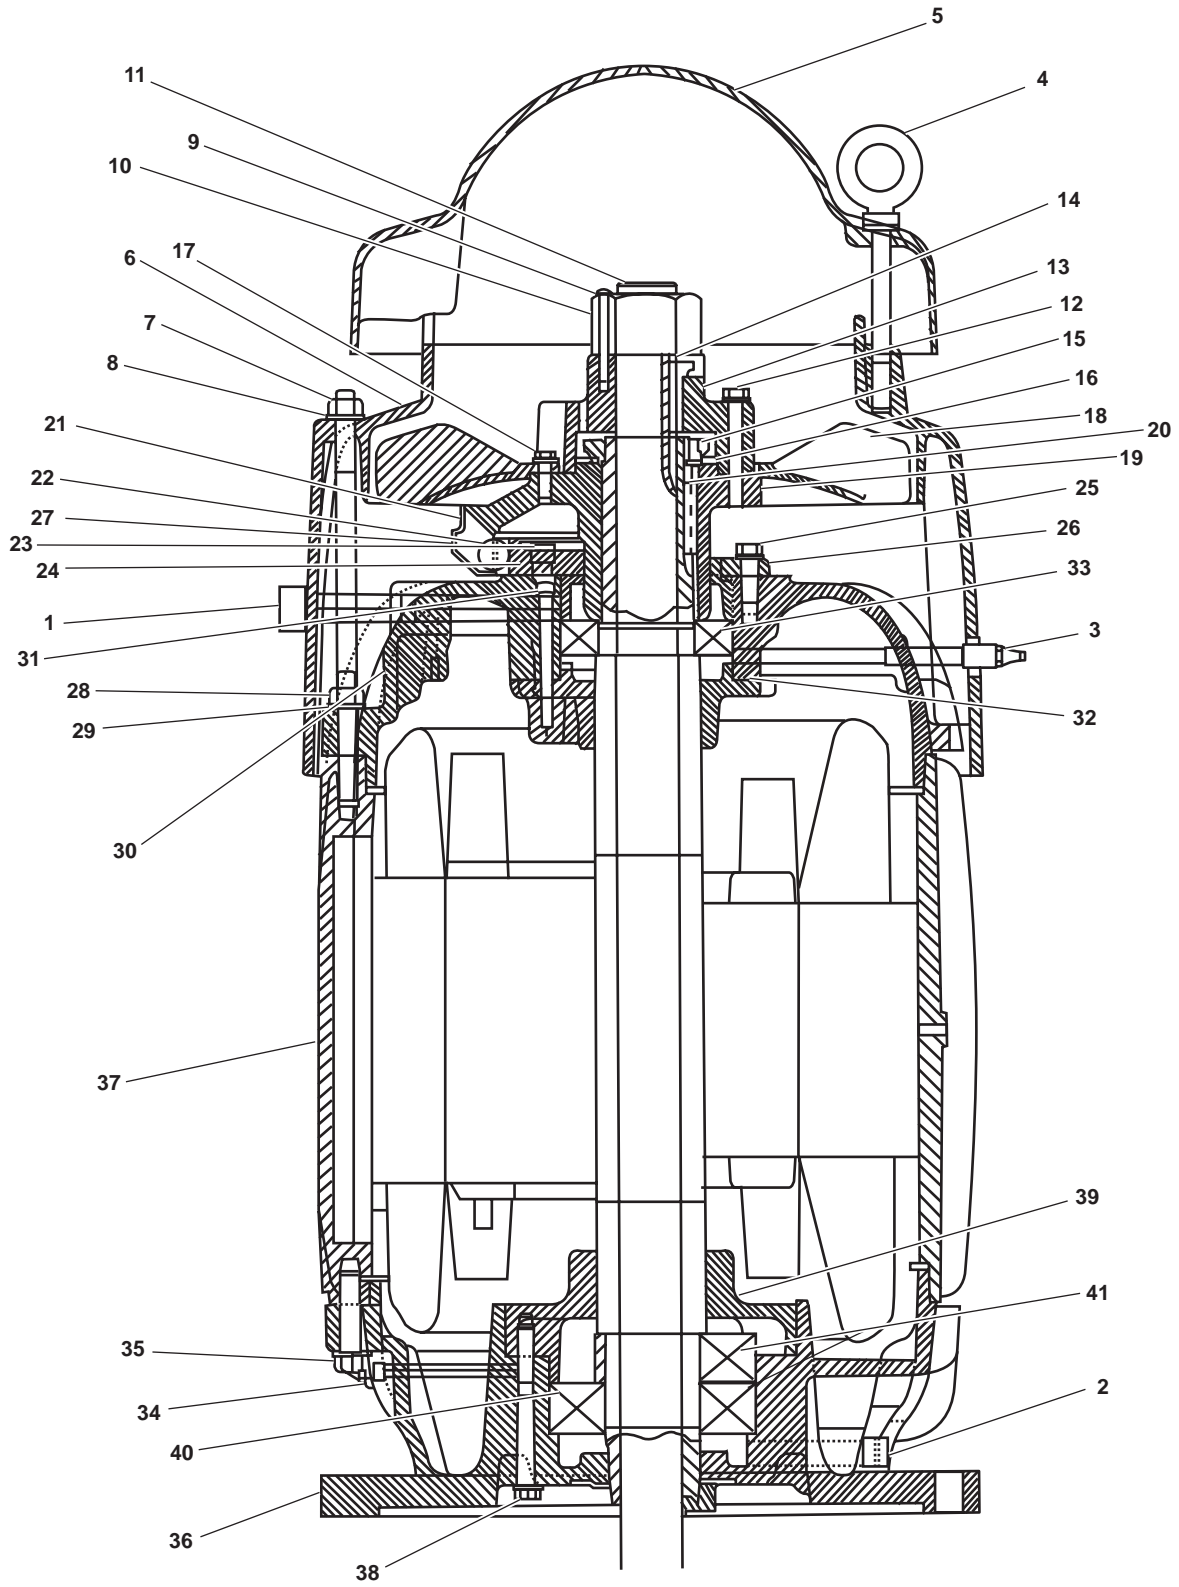

Figure 1. Fire and General Service Pump Electric Motor (Typical)
1. OPEN the grease drains (figure 1, items 1 and 2) and drain the grease from the unit.
2. Remove the grease drains (figure 1, items 1 and 2). Remove the grease fitting (figure 1, item 3).
3. Remove the eye pads (figure 1, item 4).
4. Remove the canopy (figure 1, item 5) from the fan cover guard (figure 1, item 6).
5. Remove the nuts (figure 1, item 7) and washers (figure 1, item 8) from the fan cover guard (figure 1, item 6).
6. Remove the lock screw (figure 1, item 9) from the pump head shaft nut (figure 1, item 10). Remove the pump head shaft nut from the pump head shaft (figure 1, item 11). Discard the lock screw.
7. Remove the bolt and associated hardware (figure 1, item 12) from the bolted coupling (figure 1, item 13).
8. Remove the bolted coupling (figure 1, item 13) and gib key (figure 1, item 14).
9. Remove the lock nut (figure 1, item 15) and lockwasher (figure 1, item 16) from the pump head shaft (figure 1, item 11).
10. Remove the bolts and associated hardware (figure 1, item 17) securing the fan (figure 1, item 18) to the coupling adaptor (figure 1, item 19).
11. Remove the coupling adaptor (figure 1, item 19) and the key (figure 1, item 20) from the pump head shaft (figure 1, item 11).
12. Remove the ball retaining ring (figure 1, item 21) securing the ratchet ball (figure 1, item 22). Remove the ratchet ball.
13. Remove the bolts (figure 1, item 23) securing the stationary ratchet (figure 1, item 24). Remove the stationary ratchet.
14. Remove the bolts (figure 1, item 25) securing the bearing cap (figure 1, item 26) and remove the bearing cap. Remove the rotating ratchet (figure 1, item 27).
15. Remove the bolts (figure 1, item 28) and washer (figure 1, item 29) securing the upper bracket (figure 1, item 30). Remove the upper bracket.
16. Remove the bolts (figure 1, item 31) securing the bearing cap (figure 1, item 32) to the upper bracket (figure 1, item 30). Separate the bearing cap from the upper bracket.
17. Separate the upthrust and guide bearing (figure 1, item 33) from the upper bracket (figure 1, item 30).
18. Remove the grease fitting (figure 1, item 34).
19. Remove the bolts (figure 1, item 35) from the lower bracket (figure 1, item 36). Separate the lower bracket from the stator and rotor housing (figure 1, item 37).
20. Remove the bolts (figure 1, item 38) securing the bearing cap (figure 1, item 39) to the lower bracket (figure 1, item 36). Separate the bearing cap from the lower bracket.
21. Remove the single bearing (figure 1, item 40) from the lower bracket (figure 1, item 36).
22. Remove the tandem thrust bearings (figure 1, item 41) from the lower bracket (figure 1, item 36).
2. Check for any binding, scoring, or burrs on the bearings (figure 1, items 33, 40, and 41) and all other removed parts. Inspect all component parts for unusual wear or damage. Replace worn or damaged parts.
3. Direct a stream of compressed air at the bearings (figure 1, items 33, 40, and 41) to remove any debris.
1. Install the tandem thrust bearings (figure 1, item 41) into the lower bracket (figure 1, item 36).
2. Install the new single bearing (figure 1, item 40) into the lower bracket (figure 1, item 36).
3. Install the bearing cap (figure 1, item 39) onto the lower bracket (figure 1, item 36). Install the bolts (figure 1, item 38) securing the bearing cap to the lower bracket.
4. Install the lower bracket onto the stator and rotor housing (figure 1, item 37). Install the bolts (figure 1, item 35) into the lower bracket (figure 1, item 36).
5. Install the grease fitting (figure 1, item 34) into the lower bracket (figure 1, item 36).